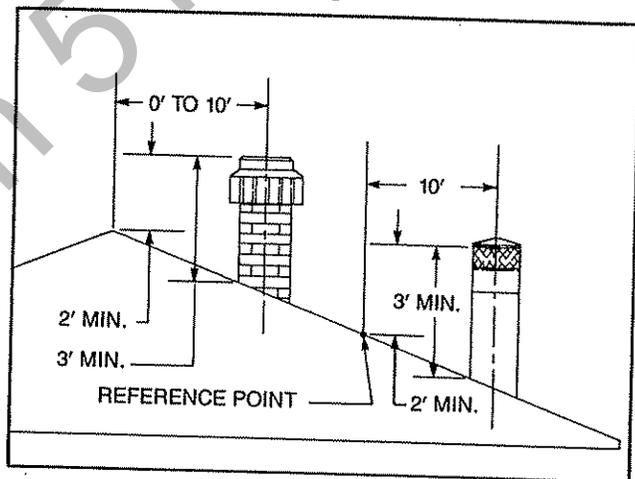

Fig. 13. Ten foot rule for chimney height.
Major U.S. building codes specify minimum chimney height above the roof top. These specifications are summarized in the *Ten Foot Rule*. (See Fig. 13.) The key points of this rule are:
2. If a horizontal distance from the center of the chimney to the peak of the roof is more than 10 feet, a chimney height reference point is established that is on the surface of the roof a distance of 10 feet from the center of the chimney in a horizontal plane. (See Fig. 13.) The top of the chimney must be at least 2 feet above this reference point, but never less than 3 feet in height above the highest point where it passes through the roof.